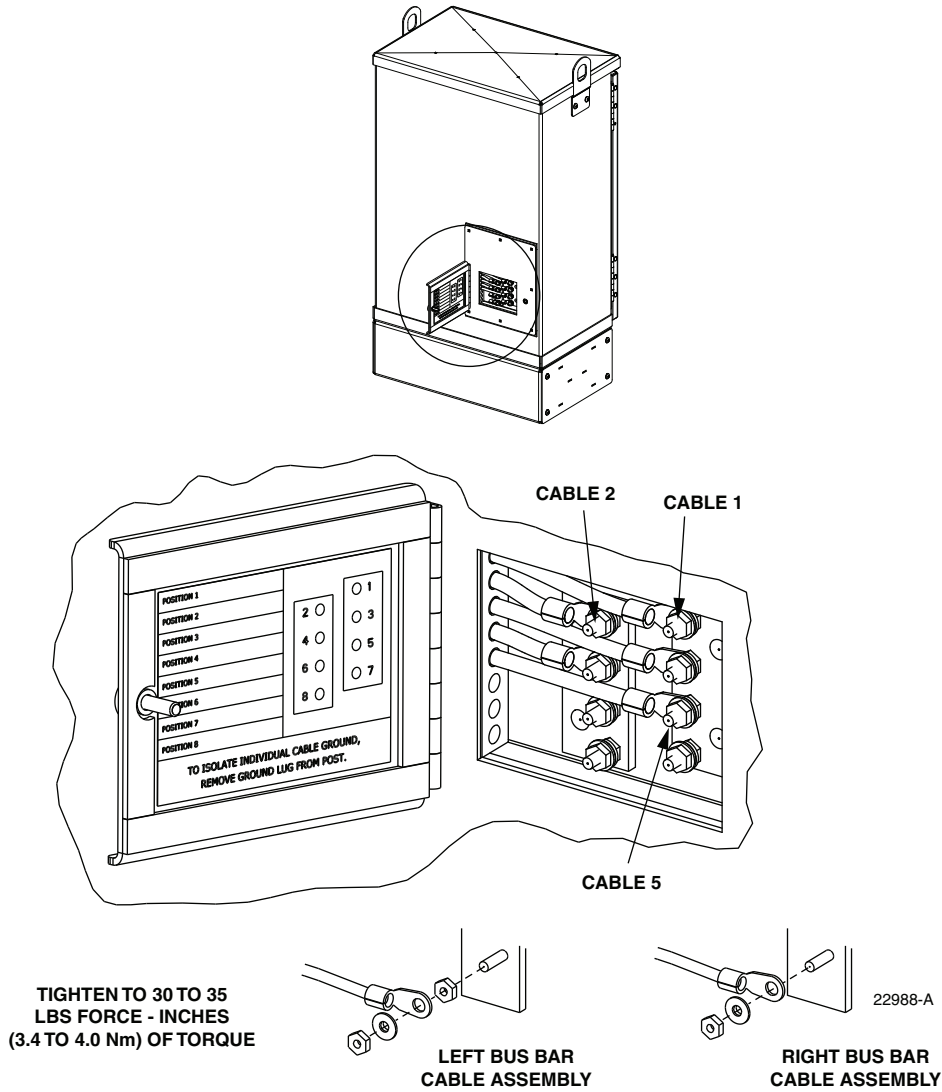

Figure 51. Grounding Block Access Cover
1. Locate the small hinged access cover at the rear side of the cabinet as shown in Figure 51.